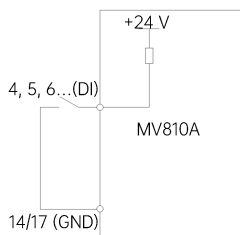

Figure 2-8 Wiring when using the internal +24 V power supply of the drive
(2) P09.11 = 1 (set the digital terminal open-circuit voltage to 24 V)
① Dry contact mode, as shown in Figure 2-8.